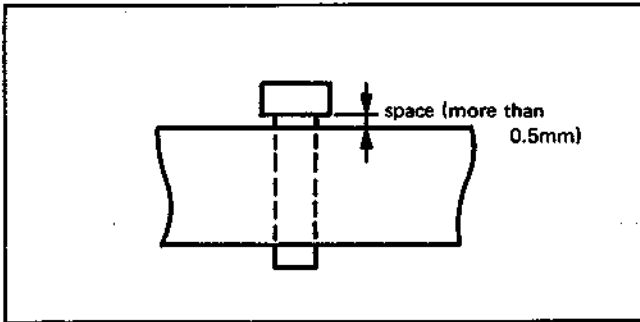

Fig. 4-8
- 1) Turn No. 6 guide upper flange counterclockwise and make a space between the upper flange and the tape. (Fig. 4-8, more than 0.5mm)